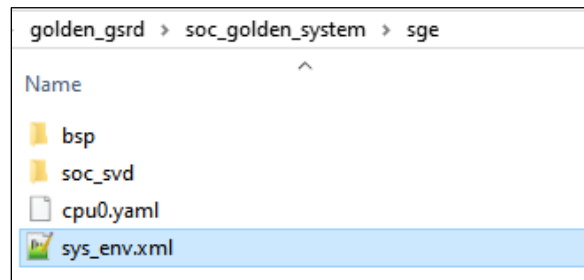

Figure 9.6. New sys_env.xml File Generated
- Once validated and generated, it updates the **sys_env.xml** file in the **sgc** folder under your project directory as shown in Figure 9.6.